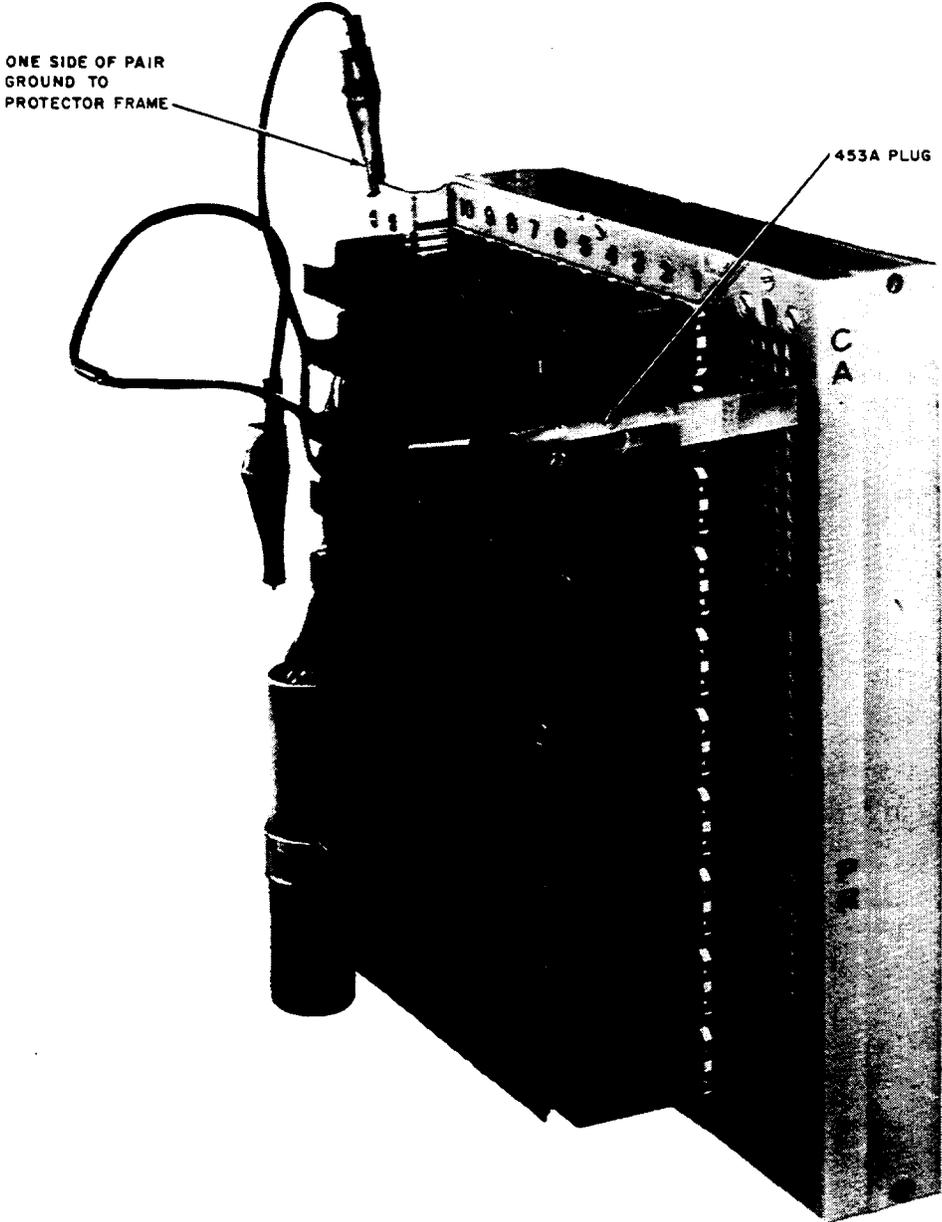

Figure 16—P2EF Test Cord for Testing Individual Pairs
7.06 The 16-inch long P2EF test cord (Figure 16) is available for shorting tip and ring, and grounding the tip and/or ring of an individual cable pair at the test terminal field. The plug of the P2EF cord is pressed into the holes containing a pair of recessed test terminals.